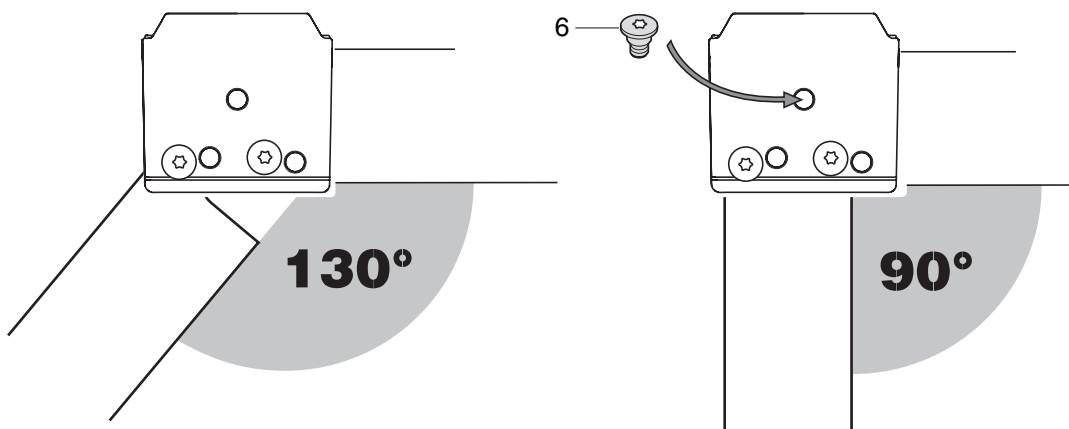

Figure 7
Door Opening Angle - Figures 7, 8
- **Insert** attached screw (6) in the **upper** hinge as shown in **Figure 7**.